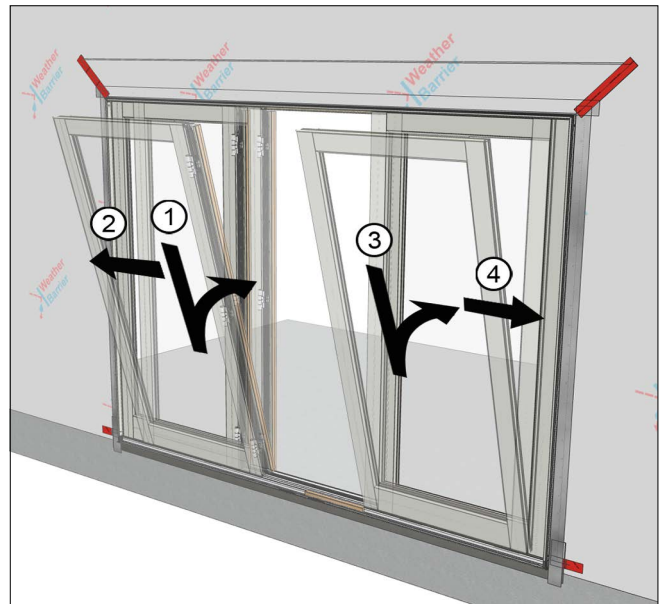

Figure 28
2. Stationary panel is installed first by tipping panel in over the sill retainer and then sliding over and engaging the panel bracket into the sill retainer and jamb retainers. See Figure 28. It's recommended to install one stationary panel at a time following steps 3-5 and then repeating for the other panel.